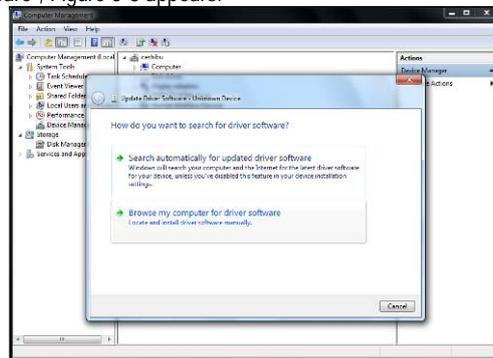

Figure 5-8
2. Right click the "unknown device" to select "Update Driver Software", Figure 5-8 appears: